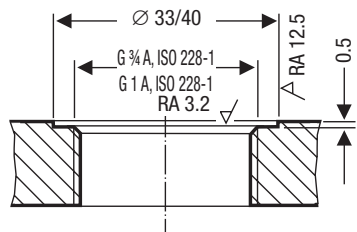

Fig. 12
- The seating surfaces of the standpipe or the flange provided on the vessel must be accurately machined, see **Fig. 12**.
7. Check seating surfaces. **Fig. 12**